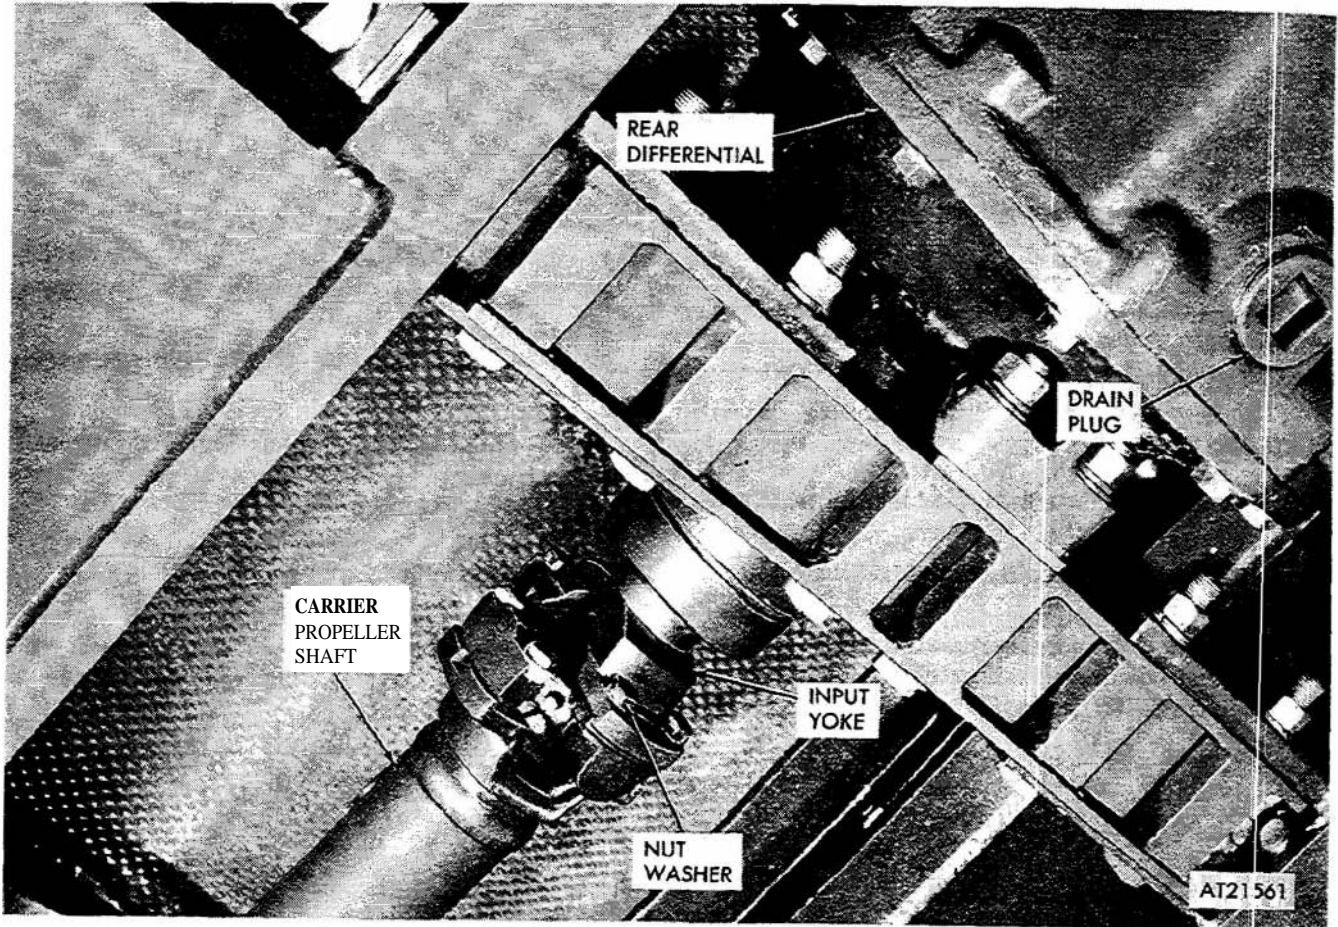

Figure 3-188. Rear differential input yoke seal removal and installation.
- (1) Using a suitable jack, jack and block vehicle.
- (2) Drain lubricant from differential by removing drain plug (fig 3-188). Catch lubricant in a suitable container and replace drain plug.
(1) Using a suitable diameter sleeve, tap seal into differential.
(2) Lightly coat the inside of seal with grease (GAA) and install sleeve.
(3) Position input yoke (fig. 3-188) on differential and secure with nut and washer. Using a suitable foot-pound torque wrench, tighten nut to torque value recorded in a. (4) above.
(4) Connect carrier propeller shaft (refer to TM 9-2320-242-20).
(5) Remove blocks from vehicle and lower jack. Remove jack.
(6) Fill differential with proper lubricant. (Refer to LO 9-2320-242-12.)